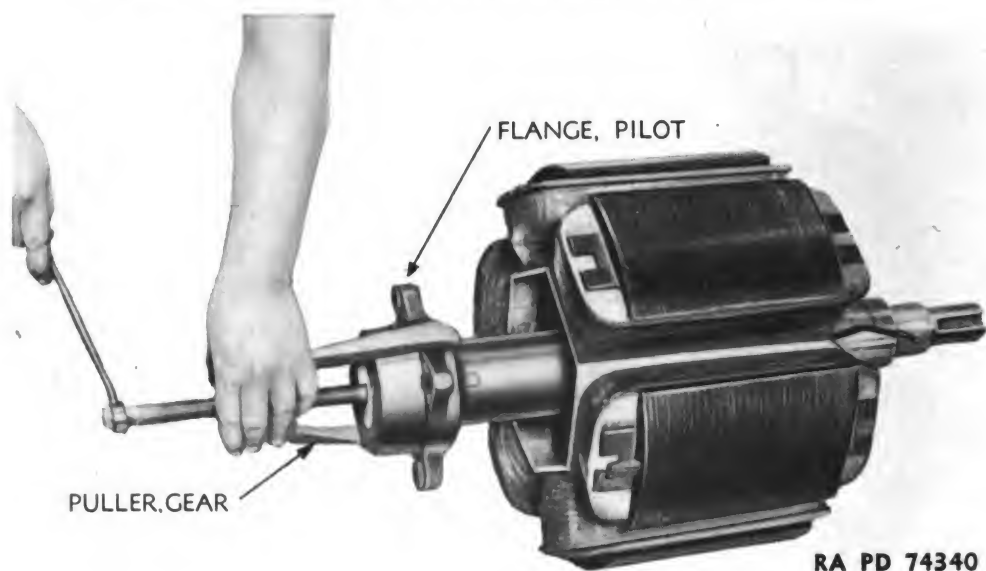

Figure 186 — Coupling Pilot Flange Removal
(10) Press pilot flange from shaft (fig. 186).